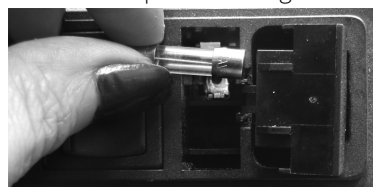

Fig. 67—Open the fuse housing and rotate it right to remove the fuse.
4. Pull the fuse housing out as far as it will go and rotate it to the right. There is a catch to keep the housing from coming completely out (Fig. 67).